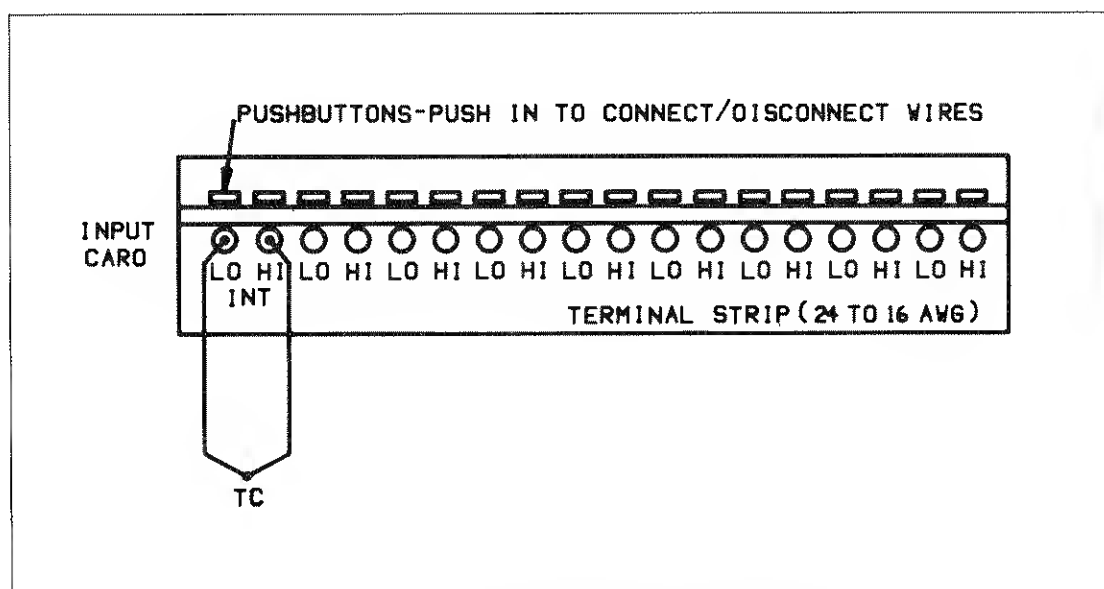

Figure 2-3. Setup Using Internal Channel
4. The TC must be connected to the pair of terminals marked "INT" (see Figure 2-3). Connect the positive wire to the HI terminal and the negative wire (red insulation) to the LO terminal.